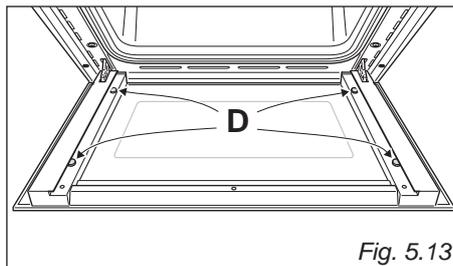

Fig. 5.13
- Check that the four rubber pads are in place ("D" in fig. 5.13).